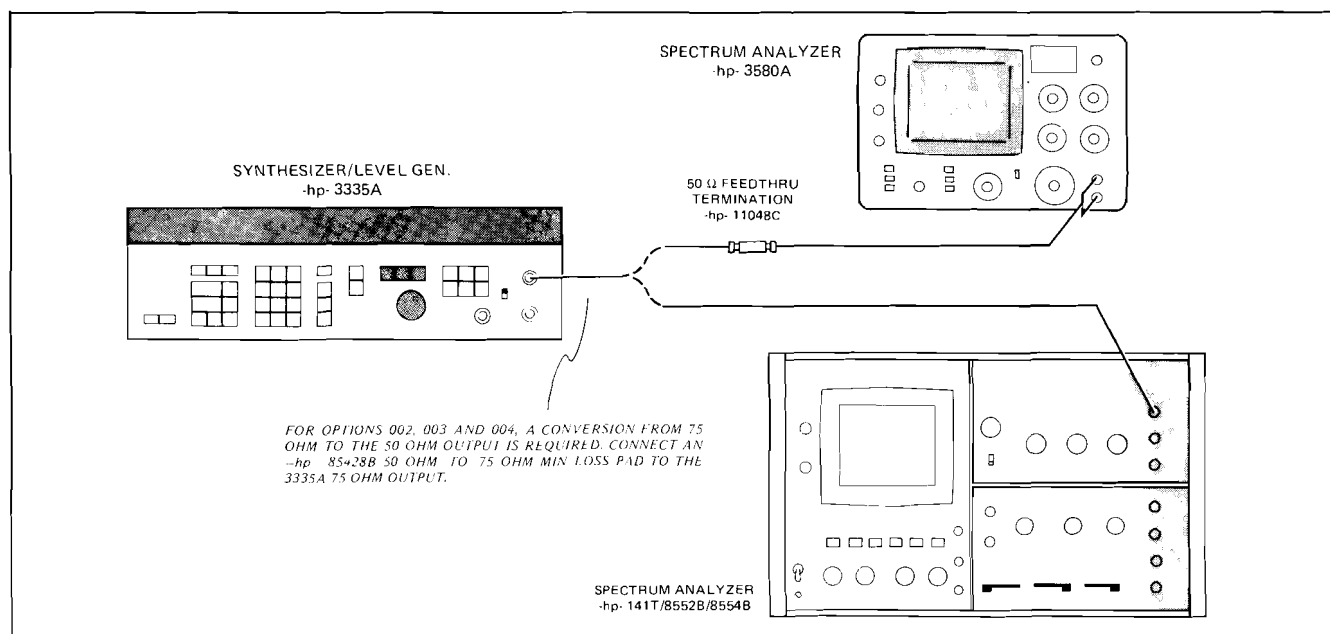

Figure 4-4. Spurious Response Test (Known).
1. Connect the test set-up as shown in Figure 4.4 using the 3580A Spectrum Analyzer first.
5. Replace the -hp- 3580A Spectrum Analyzer with the 141T/8552B/8553B (see Figure 4-4) Spectrum Analyzer. Set the 141T/8552B/8553B for a normal display with the input attenuator set to 40 dB.